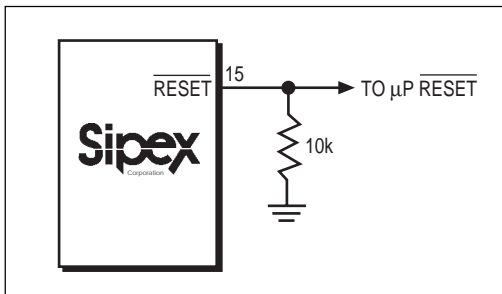

Figure 4. Adding an external pull-down resistor ensures $\overline{\text{RESET}}$ is valid with V_{CC} down to GND.
1.6mA at $\overline{\text{VOUT}} = 0.5\text{V}$. When no backup battery is used, $\overline{\text{RESET}}$ output is valid down to $V_{CC} = 1\text{V}$, and an external $10\text{k}\Omega$ pull-down resistor on $\overline{\text{RESET}}$ ensures that $\overline{\text{RESET}}$ will be valid with V_{CC} down to GND as shown on Figure 4. As V_{CC} goes below 1V, the gate drive to the $\overline{\text{RESET}}$ output switch reduces accordingly, increasing the $r_{DS(ON)}$ and the saturation voltage. The $10\text{k}\Omega$ pull-down resistor ensures the parallel combination of switch and external resistor is $10\text{k}\Omega$ and the output saturation voltage is below 0.4V, while sinking $40\mu\text{A}$. When using a $10\text{k}\Omega$ external pull-down resistor, the high state for the $\overline{\text{RESET}}$ output with $V_{CC} = 4.75\text{V}$ is 4.5V typical. For battery voltages greater than or equal to 2V, $\overline{\text{RESET}}$ remains valid for V_{CC} between 0V and 5.5V. $\overline{\text{RESET}}$ will be asserted during the following conditions: